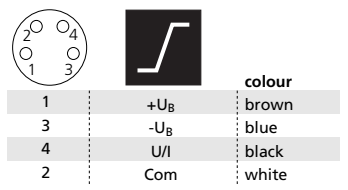

Fig. 1: Pin assignment with view onto sensor plug and colour coding of the microsonic connection cable
- Connect a connection cable to the M8 device plug, see. fig. 1.